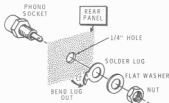
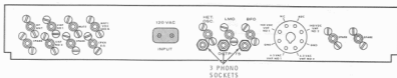

Figure 3-1
Figure 3-11
Three unused phono sockets must be available on the rear panel of your receiving equipment. If they are not, they must be installed. Your kit contains three phono sockets (with mounting hardware) for this purpose. Figure 3-1 is the socket mounting detail. **DO NOT** drill any holes until you have carefully read the "Installation" instructions for your equipment.
- () Refer to Figure 3-11 and install three phono sockets at the locations shown. Refer to Figure 3-1 for the hardware mounting detail.